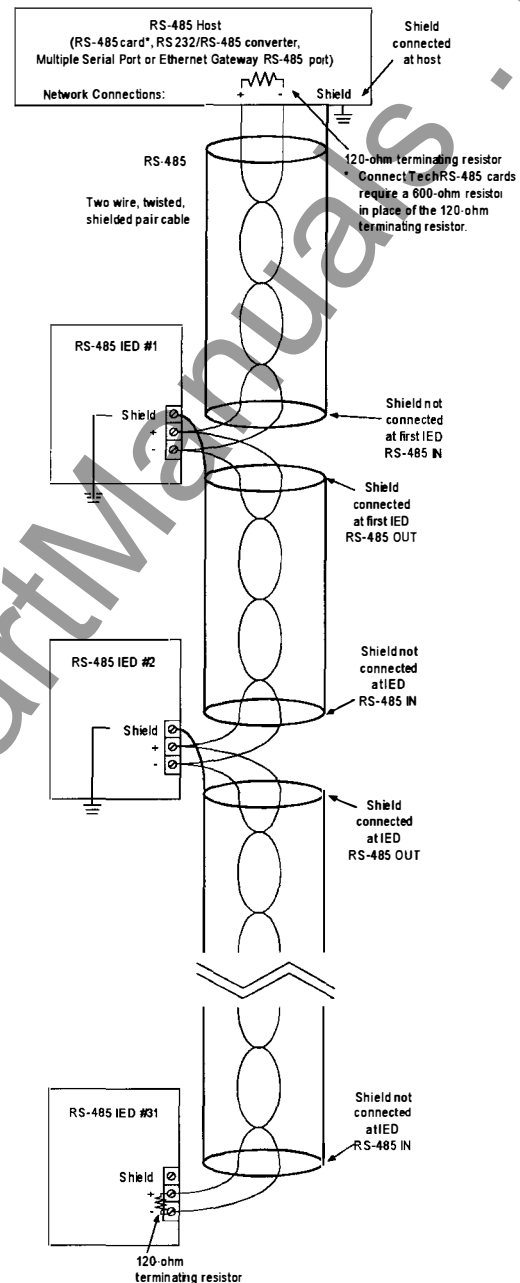

Figure 9. Network illustrating Modbus Rules 4 and 5.
4. Each RS-485 network must be properly terminated at both ends of the cable run after the final IED. (See Section 3-1 for details on termination.) Figure 9 illustrates this rule.
- Each RS-485 network must have its shield properly grounded. Figure 9 illustrates proper RS-485 wiring and grounding.